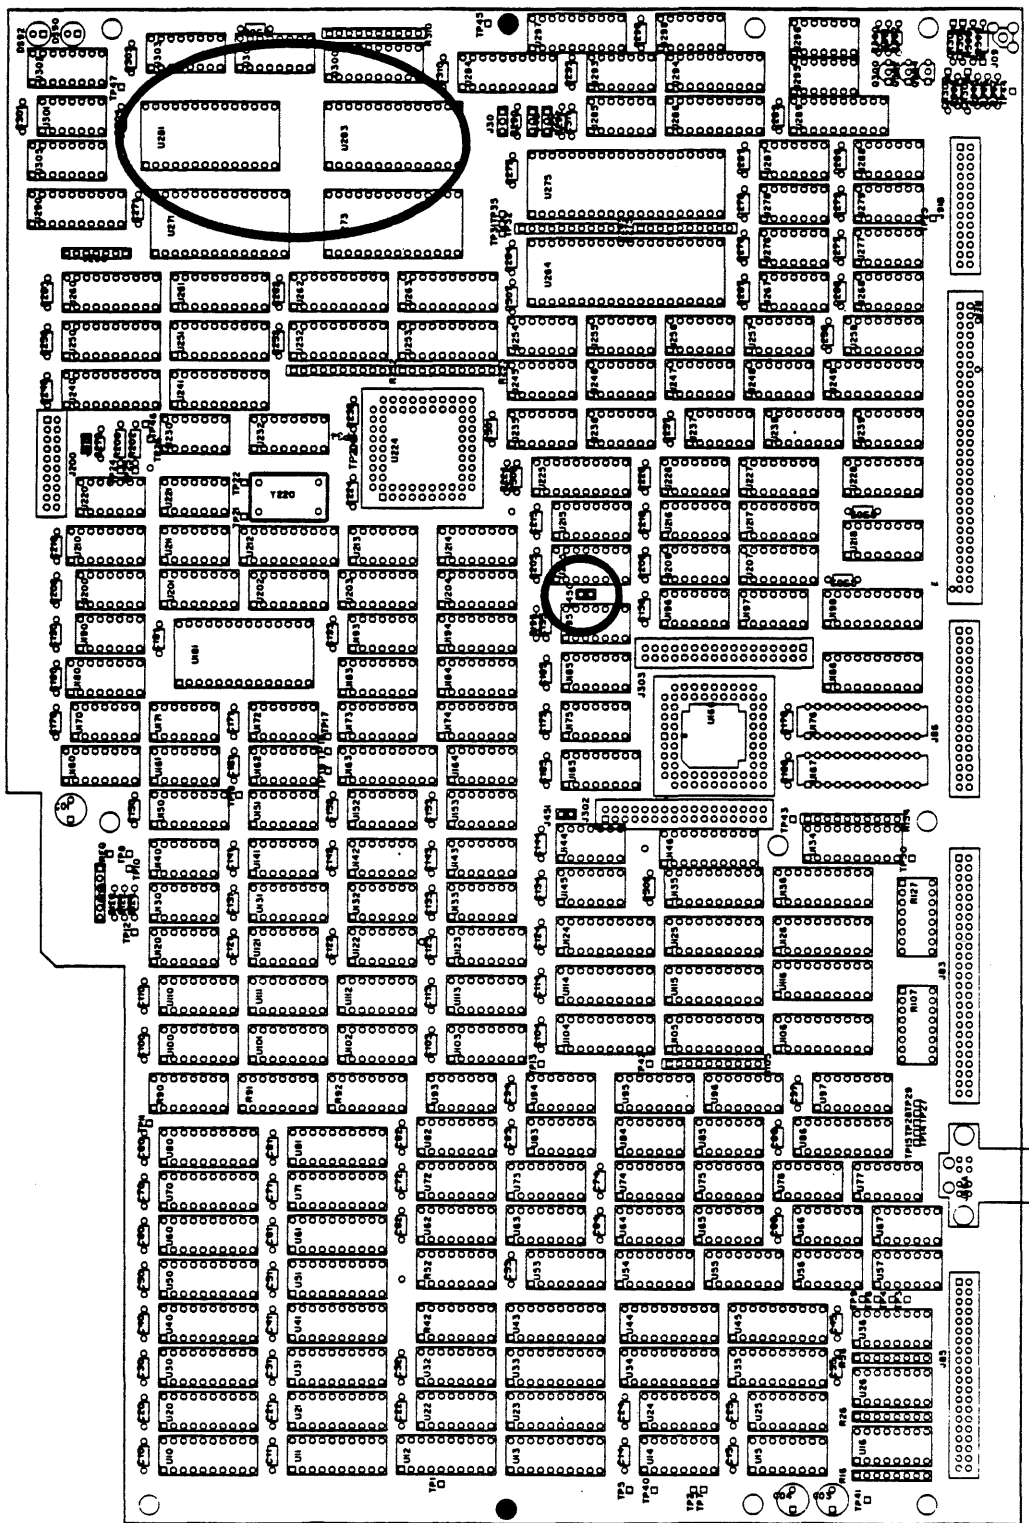

Figure 5. Time Base Board.
- a. Locate U281 and U283 on the A6 Time Base Board (670-8849-xx; see Figure 5 at the end of these instructions). These components are found near the bottom front of the instrument as it rests on its right side.
- a. Locate the CAL-LOCK pins, J450 (between U195 and U205; see Figure 5) on the Time Base Board, and add the shorting jumper.